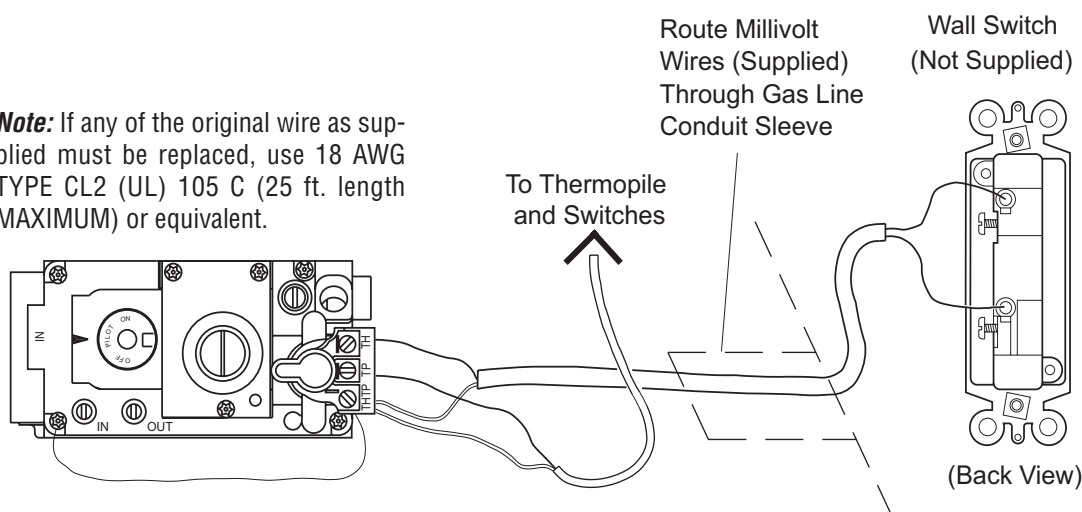

Figure 14 - Wall Switch Wiring Diagram
2. Disconnect wall switch wires from TH and TH/TP terminals on control valve (see Figure 14).